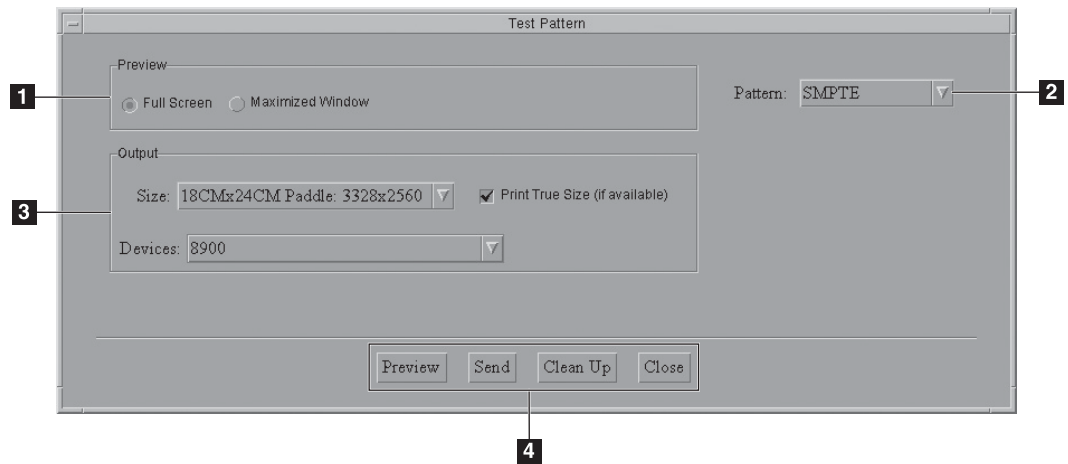

Figure 6-20: Test Pattern Dialog Box
2. Select the Preview size (Figure 6-20, No. 1).